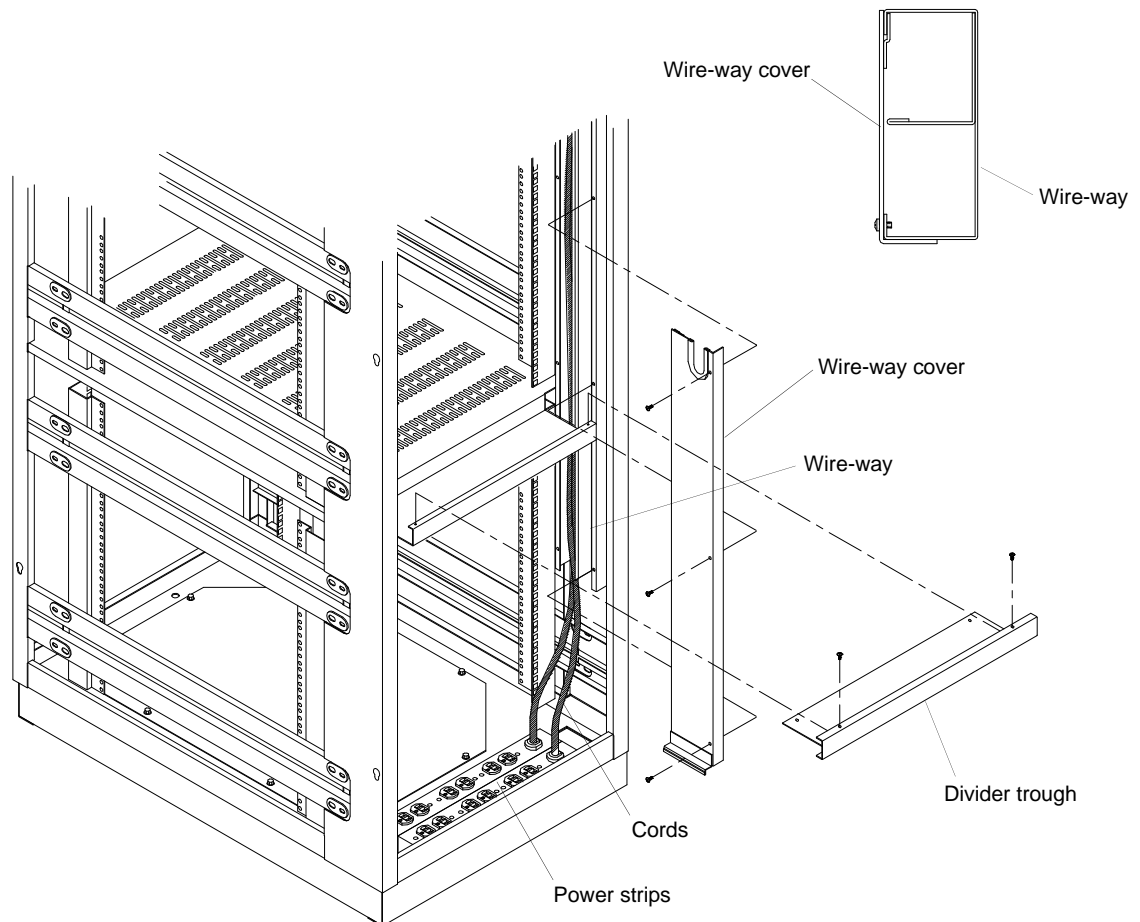

Figure 21
1. Install the power strips at the bottom of the enclosure as shown in figure 21. To route the cords, first remove the wire-way covers and divider troughs in the top bay(s). Route the cords thru the wire-way and then thru the bushing at the top of the enclosure and then re-install the wire-way covers and divider troughs.